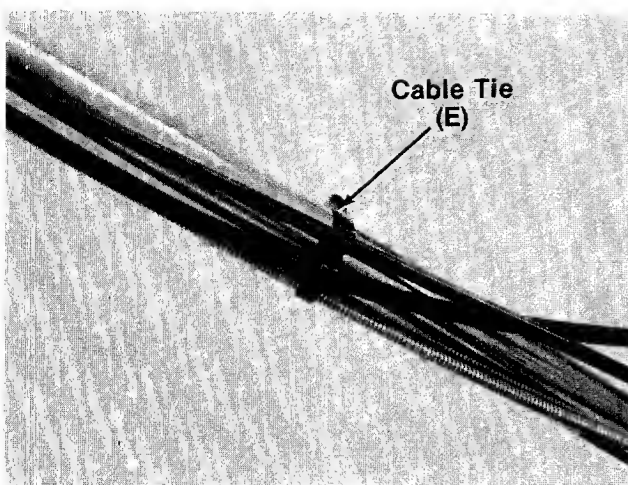

FIGURE 11.
16. Secure the control cables to handle with cable ties (E) provided. See figure 11.